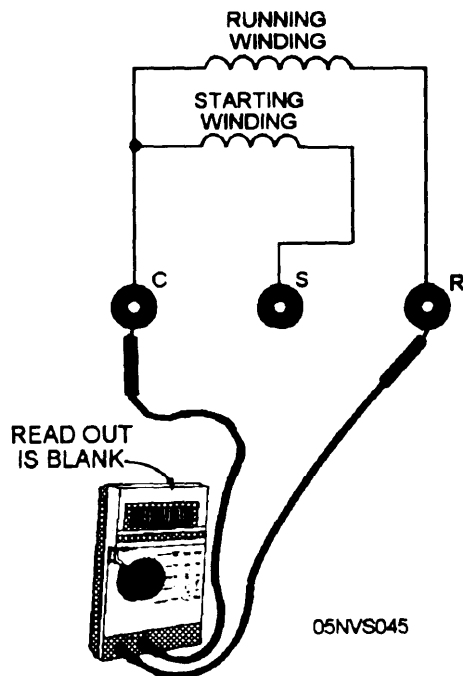

Figure 14-31.—Testing for an open winding with a ohmmeter.
The procedure for making an ohmmeter continuity test is shown in figure 14-31 and outlined below.
- Read the voltmeter. If the motor shows line voltage, the motor is energized and should be operating. The connections are similar to that shown in figure 14-31.